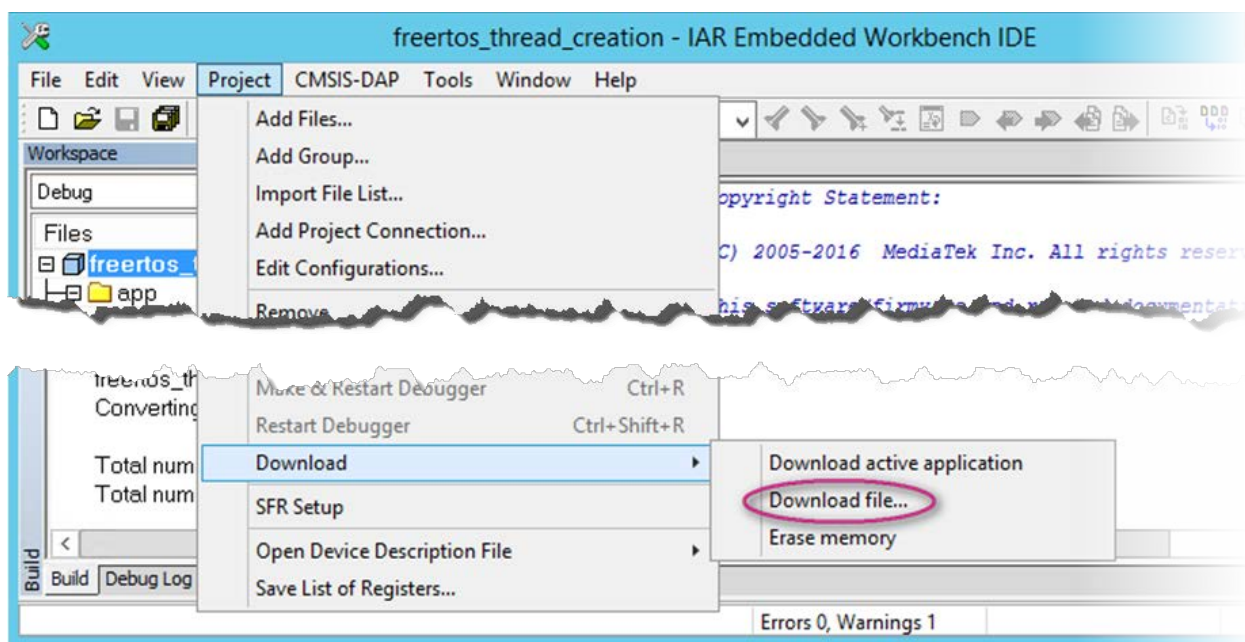

Figure 70. Download the project binary
- 2) Reset the board and then navigate to **Project**, then **Download** and click **Download file...** to download the project binary to target (see Figure 70).